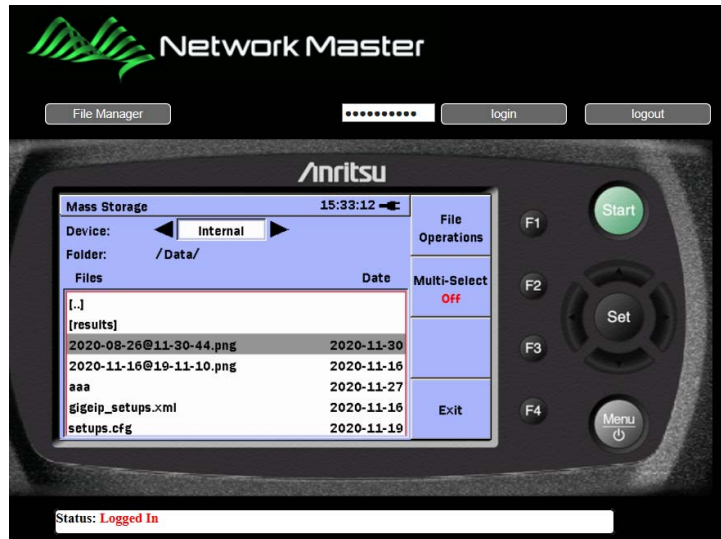

Figure B.2-2 Remote Client (after login)
4. Enter the **Remote Control Password** that was established in section B.1, and click on the **login** label. The screen shown in Figure B.2-2 will be displayed.